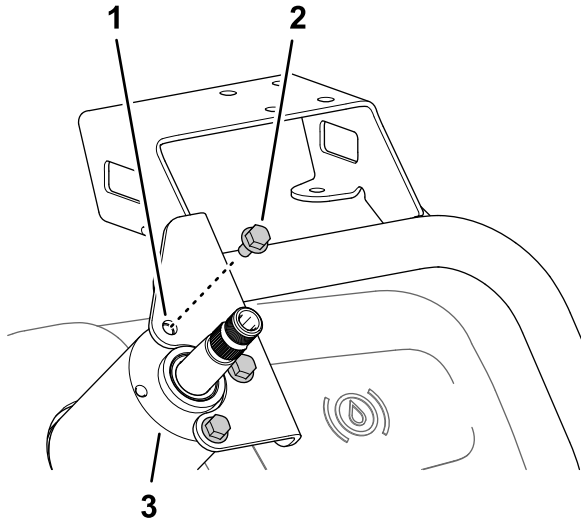

Figure 171
- Assemble the monitor mount to the housing of the steering valve (Figure 171) with the 3 flange-head bolts (6 x 12 mm).